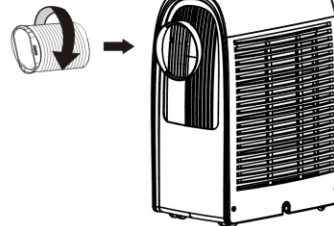

Fig.03
3. As shown in "Fig.03", attach the exhaust hose directly onto the onto heat clip connector.